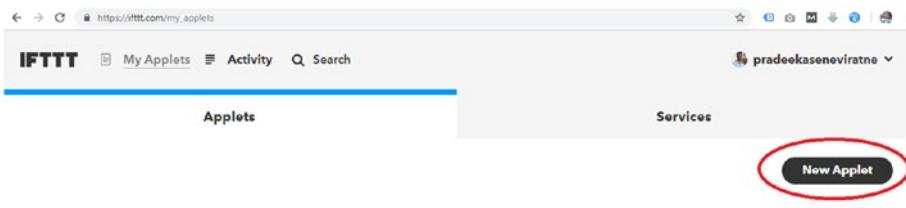

Figure 8-26. Creating a new applet
- Under Applets, click the New Applet button (Figure 8-26).